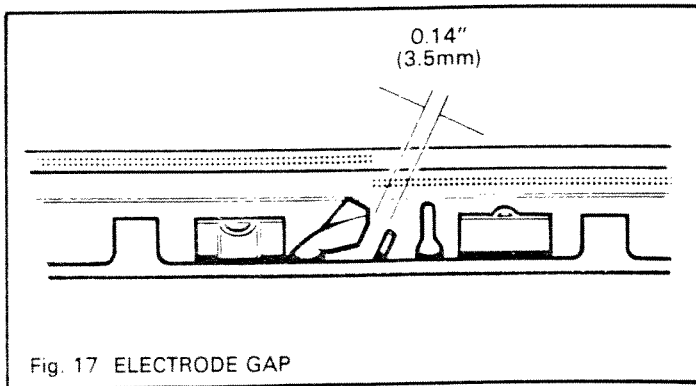

Fig. 17 ELECTRODE GAP
- While still holding down the control knob, press the igniter button several times until the pilot lights. If the pilot does not ignite (after ensuring that all air has been purged), check that the electrode gap is set as shown in Fig 17.